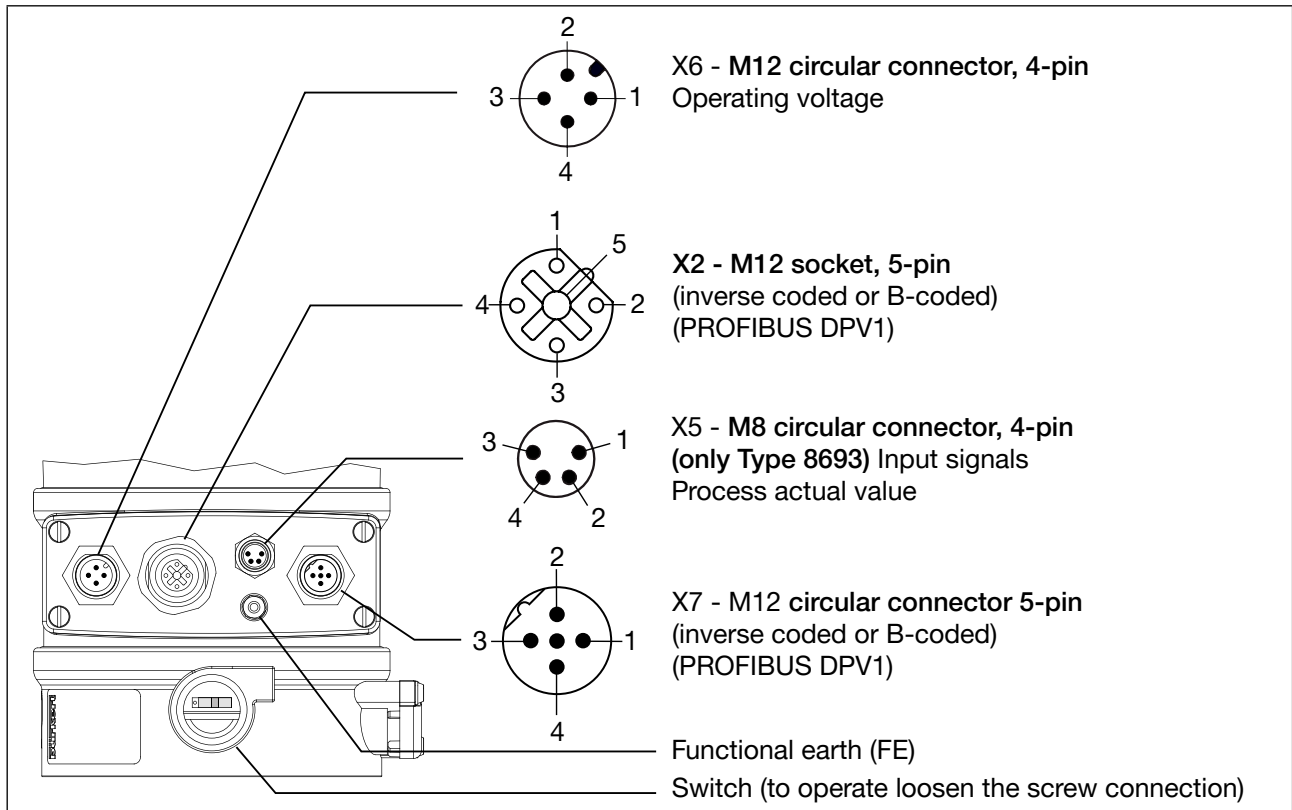

Figure 80: Electrical connection PROFIBUS DPV1, Typ 8692/8693
*** The switch is situated under the screw joint (see „Figure 80: Electrical connection PROFIBUS DPV1, Typ 8692/8693“).